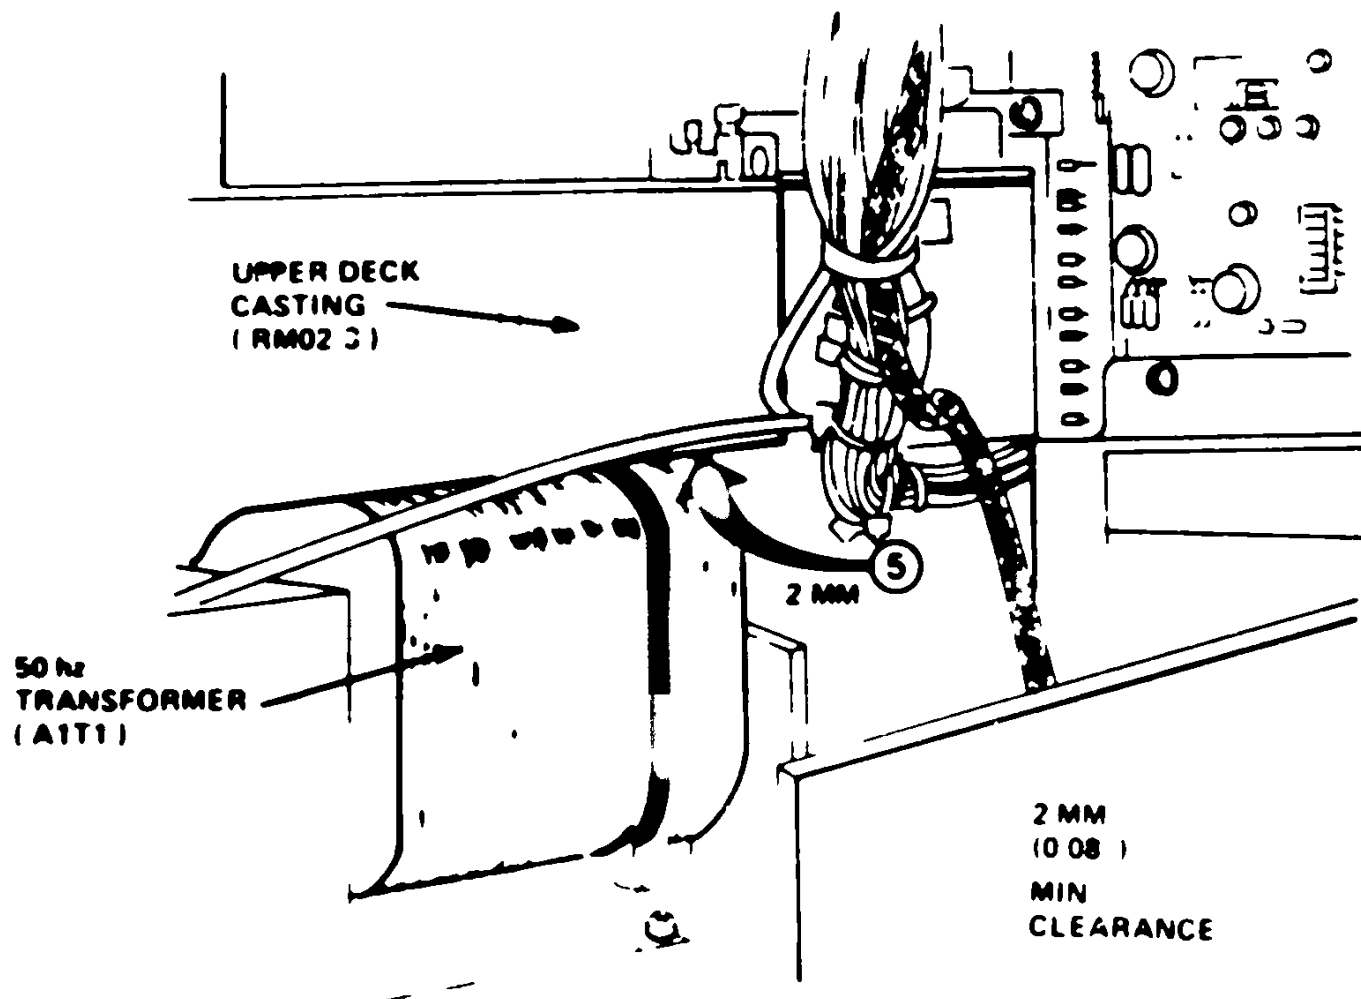

Fig 3
- 6) A closer view of the transformer is shown in figure 3.
- 7) The critical area of clearance is noted by arrow 5, figure 3. Check to be sure that there is sufficient clearance between the transformer and the upper deck chassis. A minimum of 2mm (.08") clearance is required. A flashlight and feeler gauge set may be required.